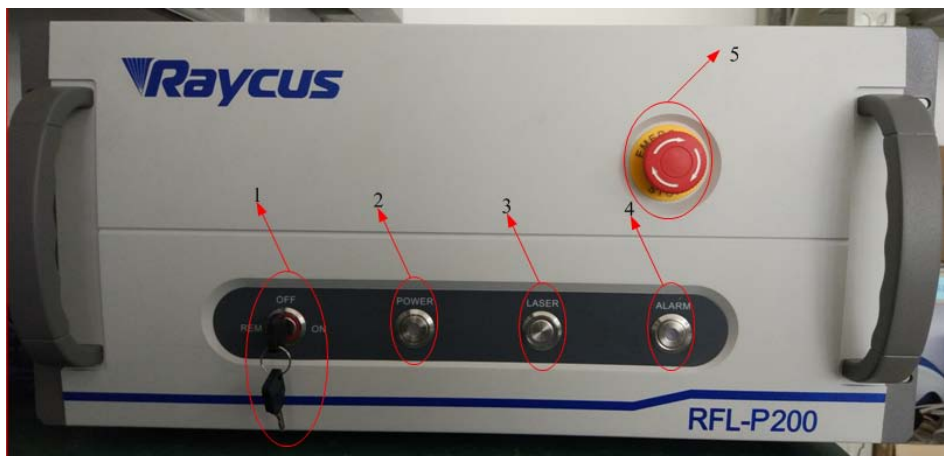

Figure 6: Front Panel View
Figure 6 shows the front panel.
1. **REM/OFF/ON:** Key switch, the power switch of laser control system. Insert the key (**Item 6** in Figure 6); either turn the key clockwise to the 'ON' position or counterclockwise to 'REM' position will power on the laser control system.